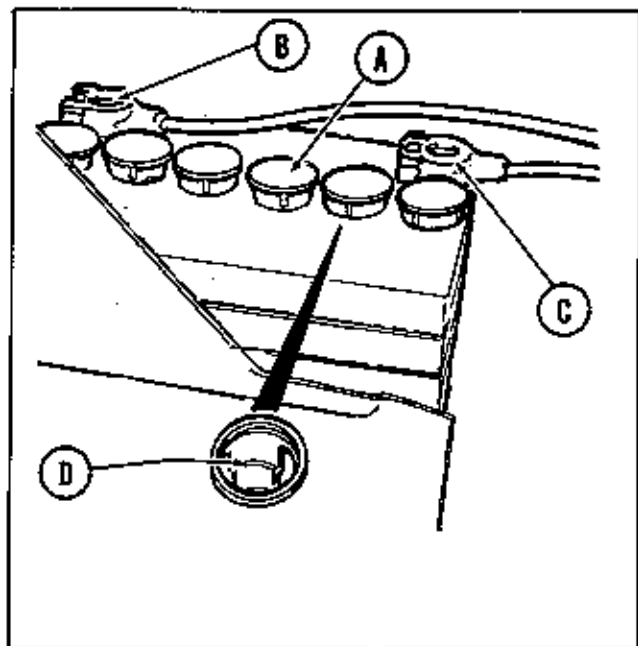

Figure 32. Tractor battery visible when hood is raised.
**CHECK BATTERY WATER LEVEL:** See figure 32. Every 25 hours, or more often when operating the tractor in temperatures above 72°F, remove the 6 battery caps (A) and check the water level in each cell. When the battery is in use, water evaporates from it. Never allow the water level in the battery to get below the top of the plates. Fill the battery to the marking ring with distilled water as shown in figure 32. If distilled water is not available, clean tap water may be used.
See figures 32. Every 100 hours or once a year the battery cables (B) and (C) should be removed and cleaned. **CAUTION: ALWAYS REMOVE THE NEGATIVE GROUND CABLE (C) FIRST AND REPLACE IT LAST.** Clean the battery with soap and water to remove all dirt, oil, and corrosion from the battery surface. Do not allow foreign material or cleaning solution to get inside the battery. Clean the terminals and battery clamps with a wire brush. Replace and tighten securely. After tightening coat the terminals and clamps liberally with a coat of grease or vaseline to inhibit corrosion.